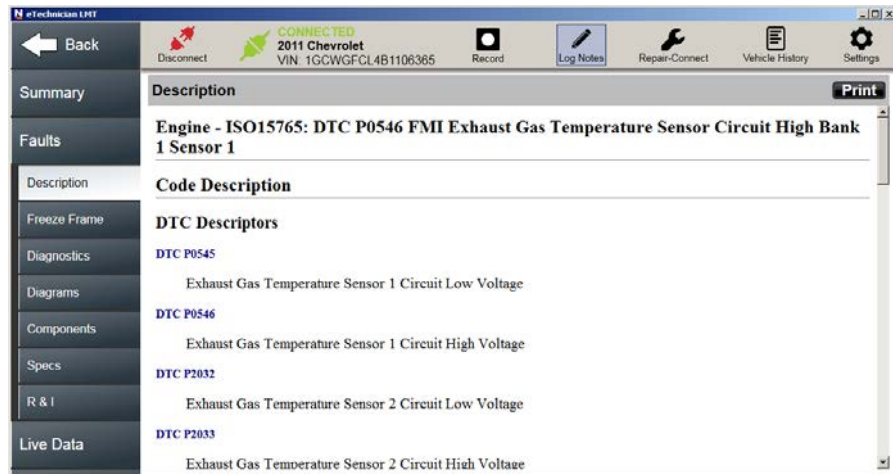

Figure 3.13 Description Screen: Part 1, Showing Repair-Connect Information
- 6 Click on the **Description** tab to go back to the previous screen (Figure 3.13).